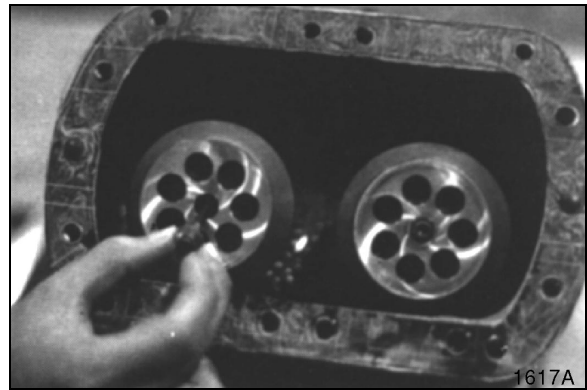

Figure 24
8. Install rubber disks to prevent blocks from falling out. See Figure 24.